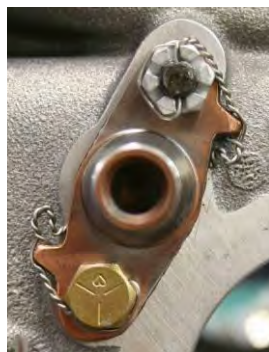

Figure 17
- (1) Remove the safety wire (Figure 17) from the nut and three bolts that attach the crankshaft idler gear shafts to the crankcase halves.